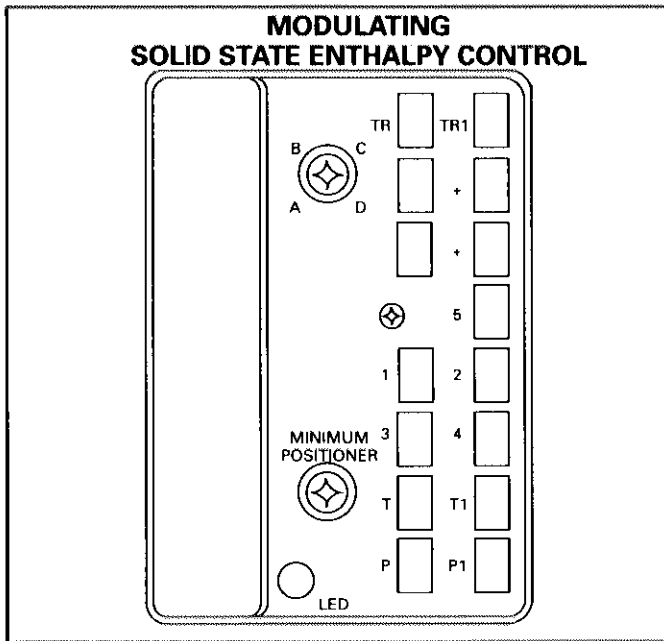

FIGURE 31
- 2- Install jumper across contactor K3-2 terminals (see unit diagram) in unit control box. Install jumper across enthalpy control terminals T and T1. See figure 31 for terminal location.
- 5—Remove T and T1 jumper then restore power to unit. Outdoor damper should drive to minimum position. Adjust minimum damper position pot located on control. See figure 31.